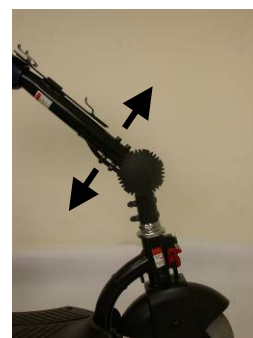

Fig. 4.4
2. Once decide the position, tighten the knob to secure the tiller.(Fig.4.4)